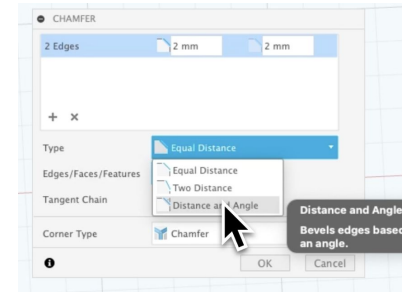

Figure 1.6
- **Chamfer:** The '**Chamfer**' tool adds a straight, angled edge instead of a rounded radius. You'll select '**Chamfer**' underneath '**Modify**' and a new window will appear where you can choose the type, such as equal distance, two distances, or distance with an angle, and then enter the values you need. This feature is useful for replacing sharp corners with a beveled edge, giving your part both functional and aesthetic improvements (see Figure 1.6).